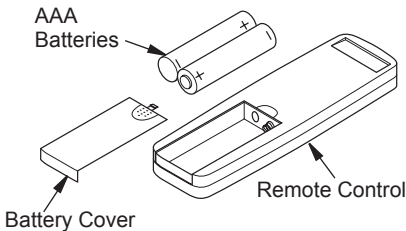

Figure 8 - Installing Batteries in Hand-Held Remote Control
2. Remove battery cover and insert supplied batteries into remote control as shown in Figure 8.